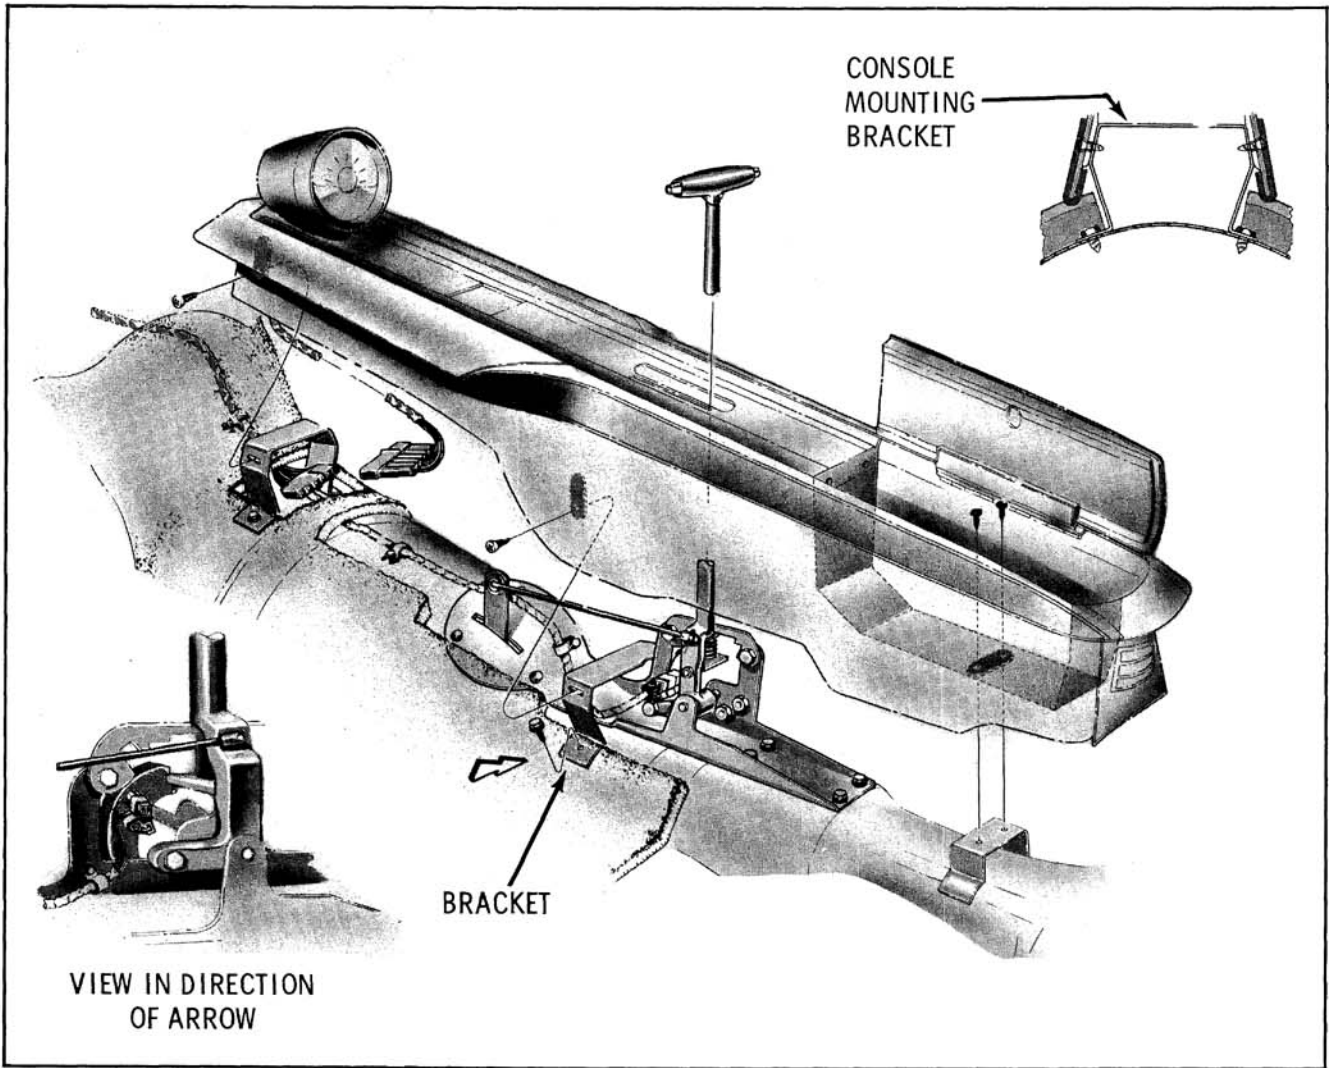

Fig. 12-113 Console Mounting (Jetaway)
1. Remove two screws from each side securing console to brackets. (Fig. 12-113)